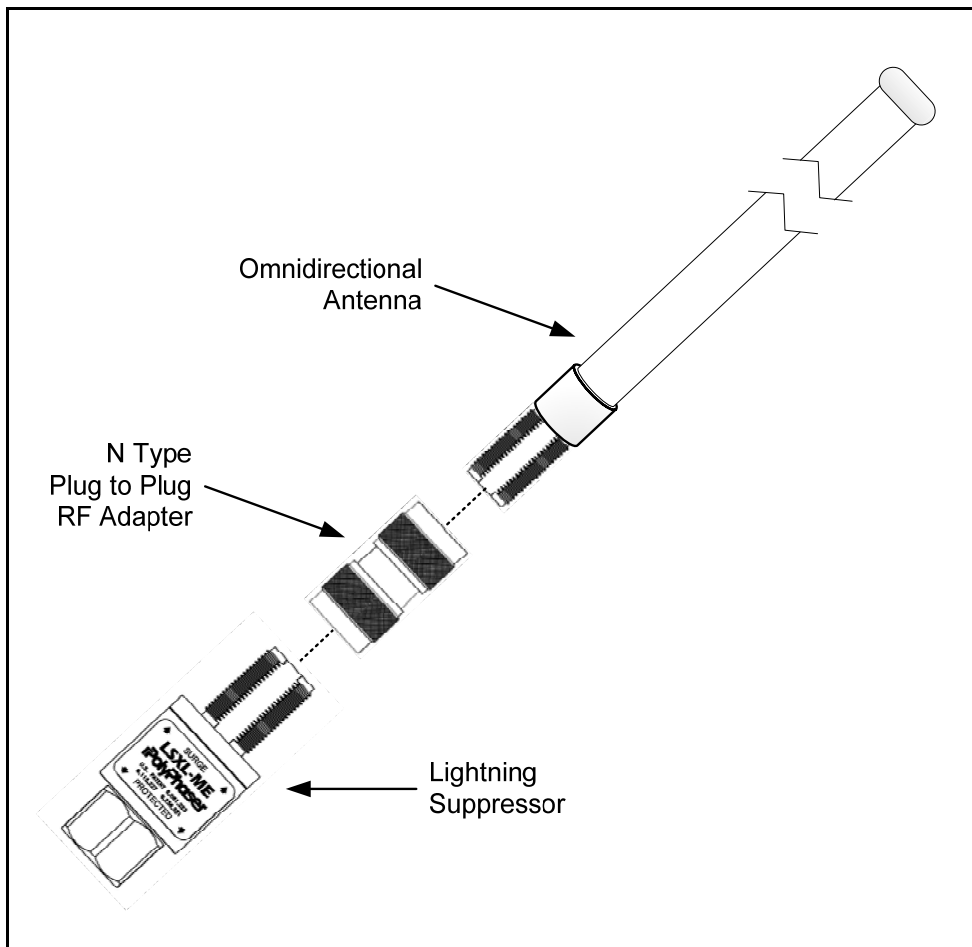

Figure 7-3: VIDAMAX Base Station Antenna with External Lightning Protection
2. For the AC version of the base station, if external lightning protection is required, connect the optional lightning suppressor to the antenna assembly as shown in Figure 7-3.